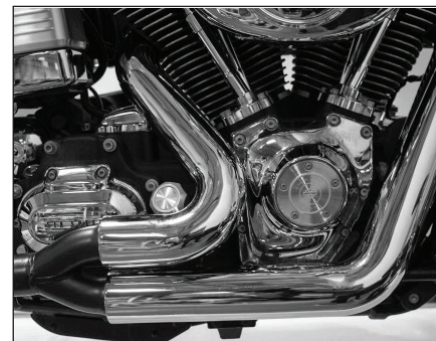

Fig 6
7. Attach the front and rear heat shields to the head pipe assembly using the heat shield clamps. Do not tighten the clamp at this time to allow for adjustment. (Figure 6)